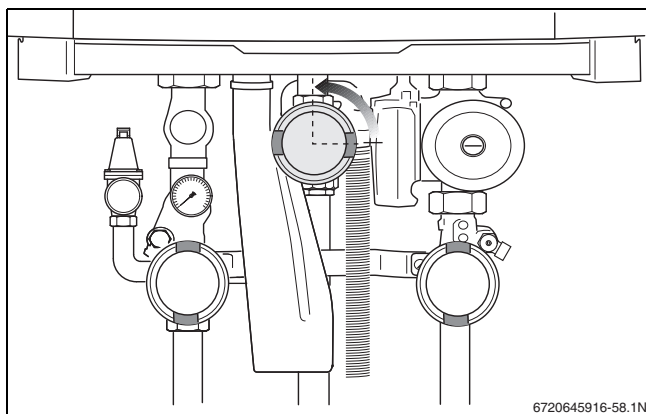

Fig. 62 Opening the gas valve
- ▶ Slowly open the gas valve by pushing on the gas valve and turning it counterclockwise through $\frac{1}{4}$ rotation (→ fig. 62). The gas valve is open when it is in the vertical position.
- Slowly open the gas valve by pushing on the gas valve and turning it ¼ rotation in an counterclockwise direction (→ fig. 62, page 34). The gas valve is open when it is in the vertical position.